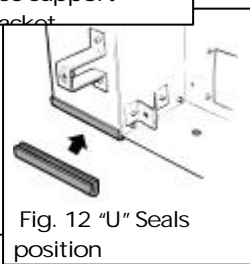

Fig. 12 "U" Seals position
6.4 Fit the two small "U" section seals to the bottom edges of the convection box side flanges (see fig. 12).